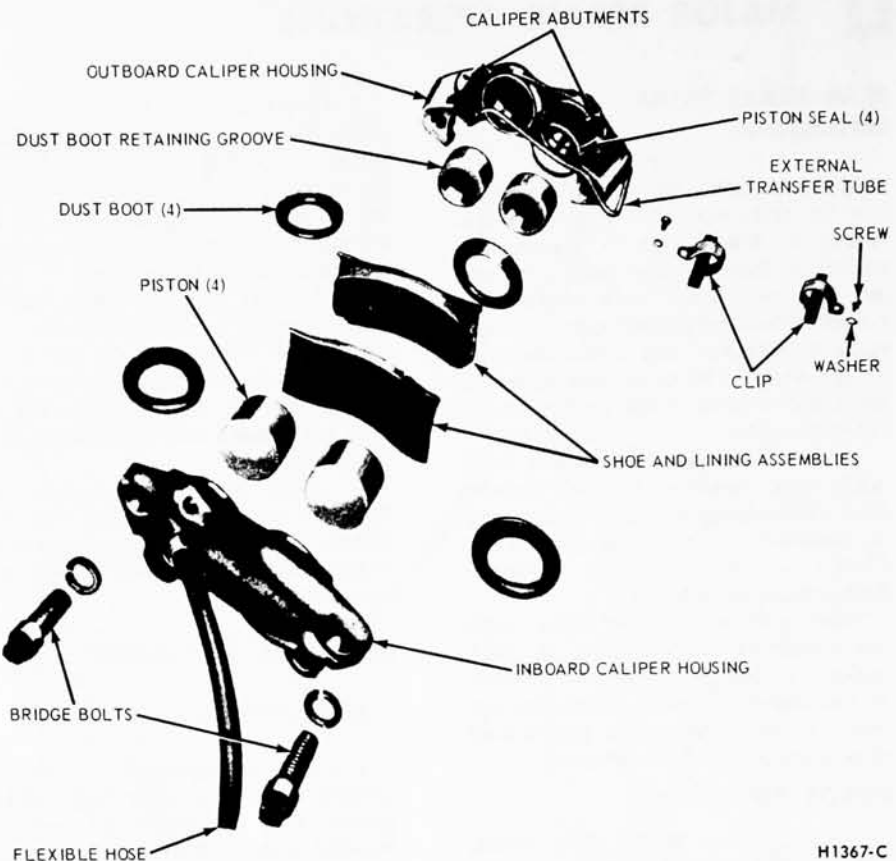

FIG. 22—Caliper Assembly—Disassembled
**Do not remove the bridge bolts that hold the two halves of the caliper together. The two caliper housings are shown separated in Fig. 22 for illustration purposes only.**
2. Remove the two attaching bolts and the caliper splash shield (Fig. 22).
If a piston is so completely seized in the cylinder bore that it can not be removed with the special tool, force the cylinder out of the bore by positioning two screwdrivers in the piston dust boot retaining groove and prying outward. To prevent cocking, tap the end of the piston lightly around the circumference with a hammer, while the prying force is being applied. Be careful to avoid damaging the dust boot retainer in the caliper housing (Fig. 22). If this method of removal is used, the pistons must be replaced.
a suitable solvent (Fig. 22). Use clean, dry, compressed air to clean out and dry the grooves and passage ways. Be sure that the caliper bore and component parts are completely free of any foreign material.